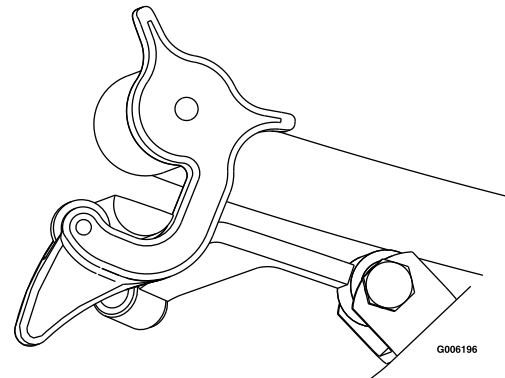

Figure 17
- With rear of machine still on jack stands and engine running at full throttle, move the speed control lever to the midway position. Move the respective drive lever upward until it reaches the neutral position and engage neutral lock latches see Figure 17. If the tire rotates in either direction, the length of the drive lever linkage will need to be adjusted.